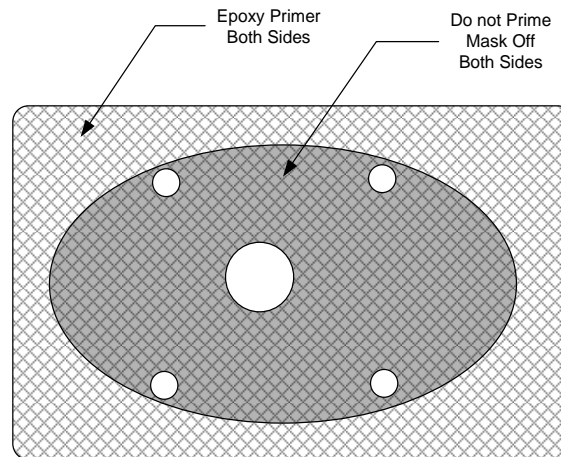

Figure 6-25: Masking of Shim for Priming
- 2) Fabricate shim from 2024-T3 aluminum with the four (4) mounting holes and 0.625" cable pass-thru drilled through.
- 5) Mask off top side of shim 1/4" inside mounting surface of RSM and mask off a similar area on the bottom so that these areas remain Alodine only (see Figure 6-25). Prime unmasked areas with epoxy primer per MIL-P-23377. Paint to match aircraft color if desired.